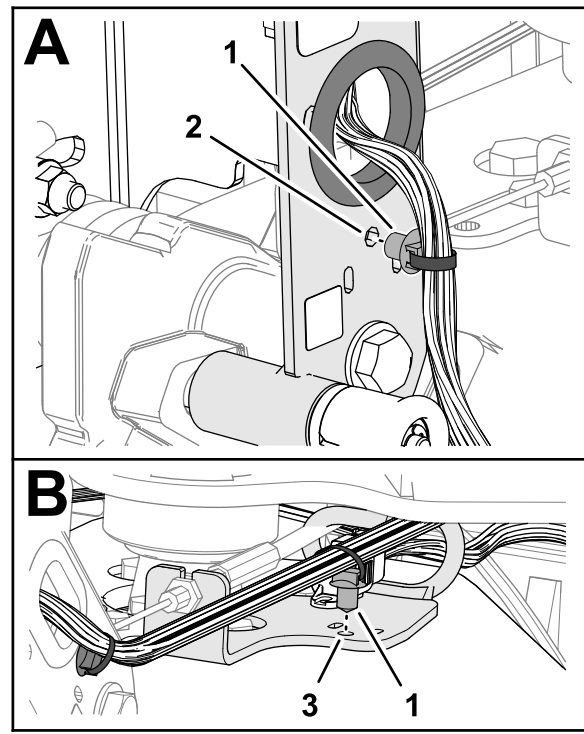

Figure 10
4. Insert the push-in anchor of the machine harness into the hole in the handle-bar channel (Figure 10).